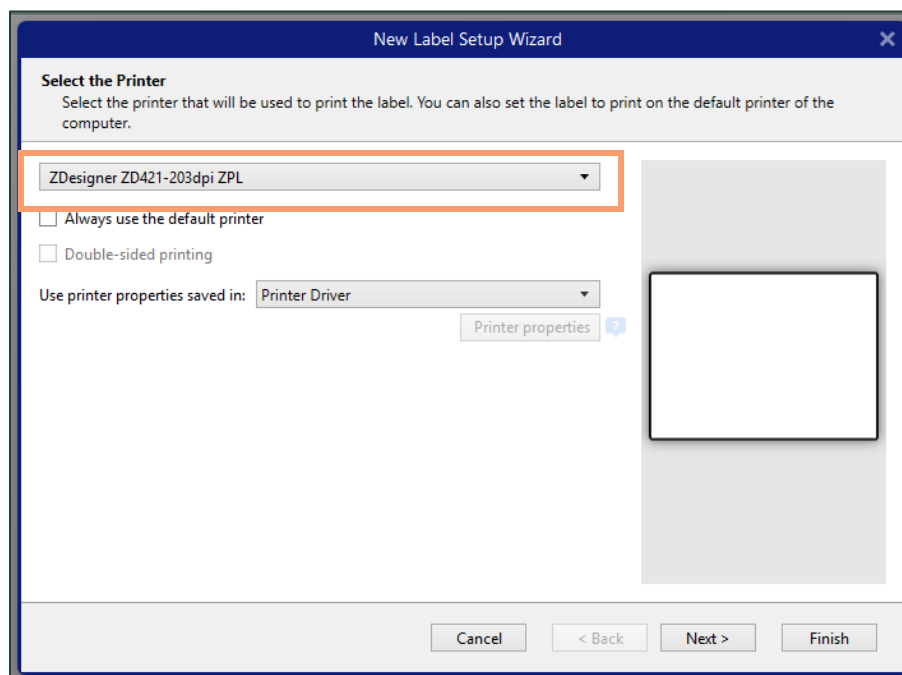

Figure 9: New Label Set Up Wizard with printer selected
3. Select your printer – **see figure 9.**